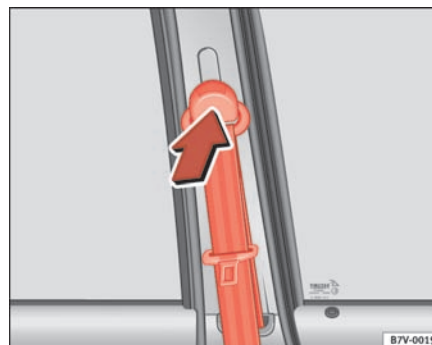

Fig. 21 Location of the belt height adjuster
- Press the upper part ⇒ **fig. 21** of the shoulder belt guide in the direction of the arrow and hold it in this position.